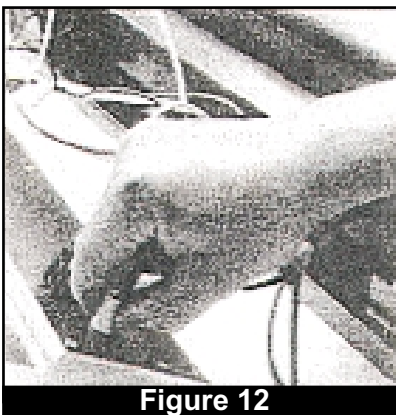

Figure 12
4. From the back side of the front panel, depress the plastic tabs on the base of the indicator lamp module and push it out the front of the panel. (Fig. 12)
5. From the back side of the front panel, depress the plastic tabs on the base of the indicator lamp module and push it out the front of the panel. (Fig. 12)